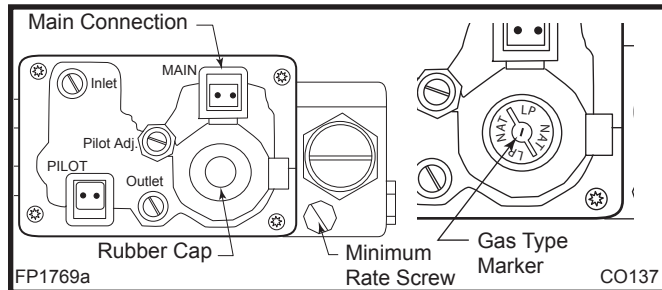

Fig. 49 Remove rubber cap and adjust gas type marker.
1. Remove rubber cap from valve. (Fig. 49)